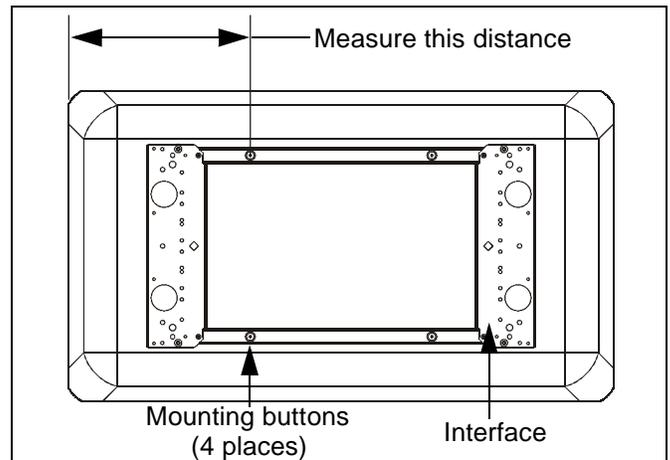

Figure 6: Mounting Button Measurement
5. Lay display face down on protective surface. Measure from side edge of display case (not display screen) to center of nearest display mounting button on interface (See Figure 6).